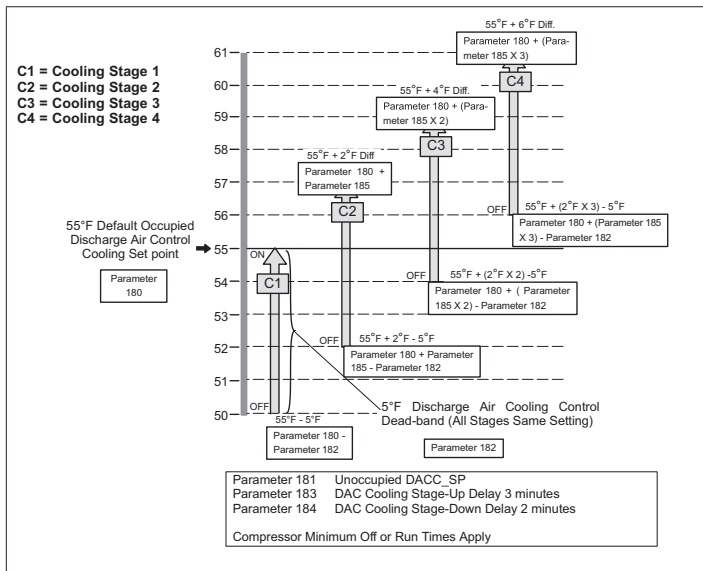

Figure 18. Discharge Air Control Cooling Stages - Default Values Shown
- Refer to “Figure 18. Discharge Air Control Cooling Stages - Default Values Shown” on page 50.